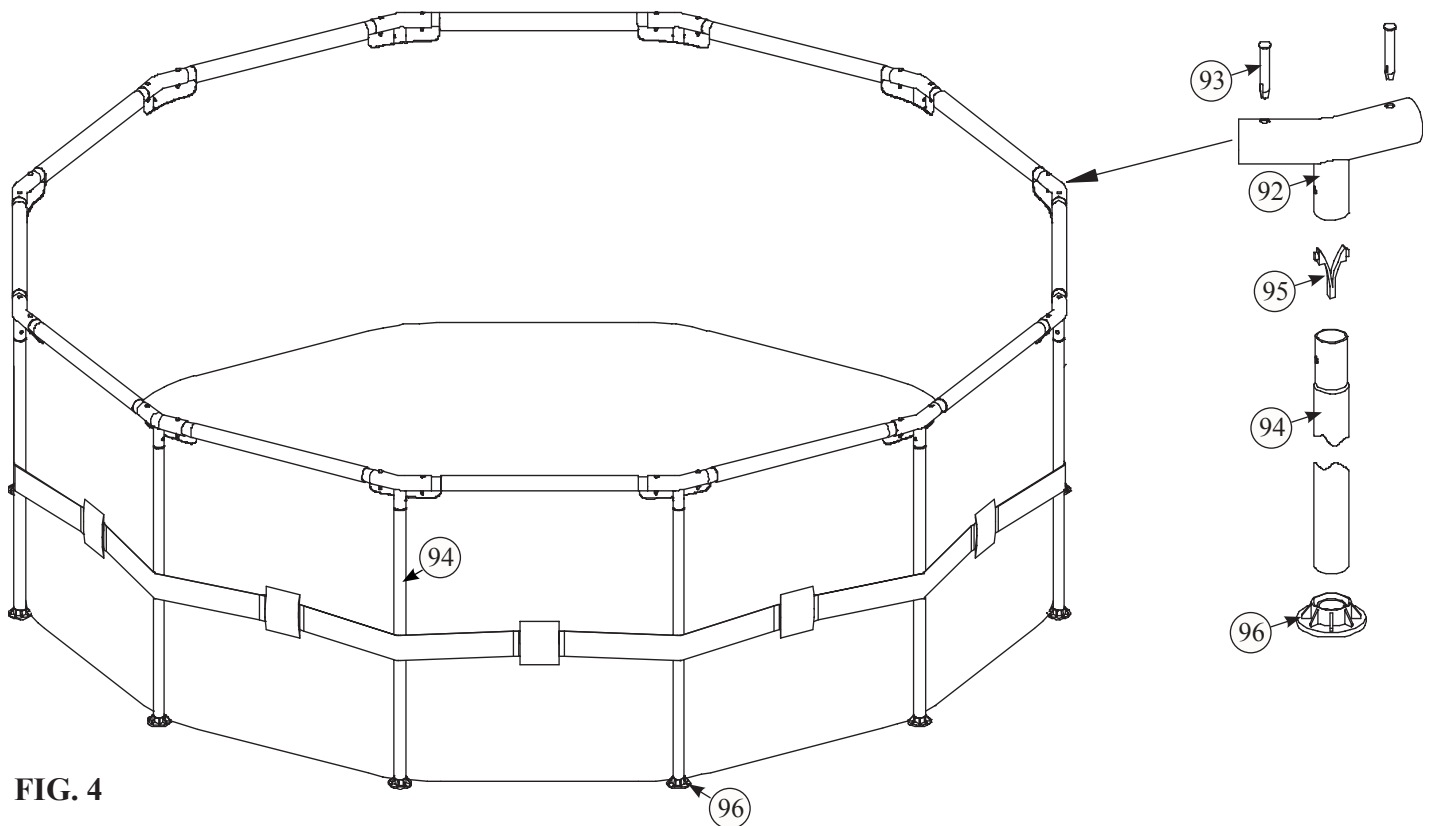

FIG. 4
4. Once the top frame is assembled, locate the Vertical Legs (94). The Vertical Leg sections will have a Spring Pin (95) pre-installed at the top end. First, insert the leg down through the belt that runs around the middle of the pool, see **Fig. 4**. Now, to connect them into the top frame, push the buttons in as you insert the Leg up into the Tee Fitting. Look through the hole in the Fitting as you insert and rotate the pipe until the buttons align with the holes and pop out, locking the leg in place. Finally, take one of the Leg Caps (96) and insert the bottom of the Vertical Leg into it until it stops.